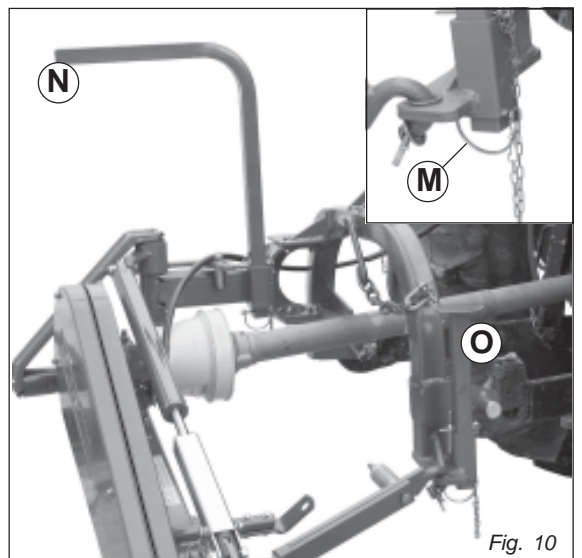

Fig. 10
- Remove spring locking pin (M, Fig. 10) from parking stand.
- Remove support (N and O, Fig. 10) and remount them, upside-down in their seat .
- Fasten with spring locking pin (M, Fig. 10).